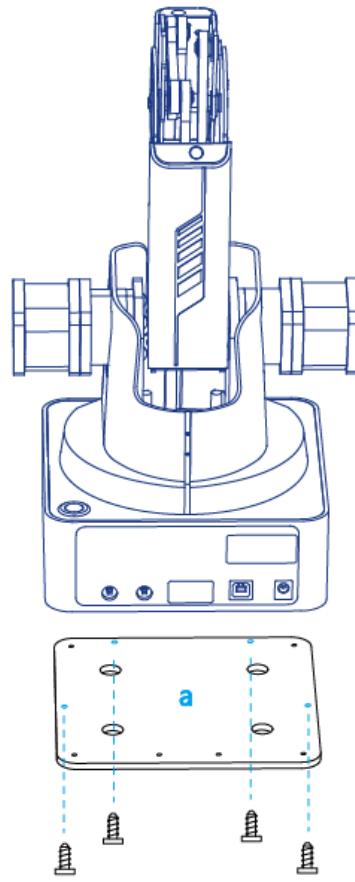

Figure 5.187 Fix plate a
- Step 1** Mount Dobot Magician on the plate **a** with four M3*10 countersunk head cap screws (The counter bore of plate **a** is outwards), as shown in Figure 5.187.